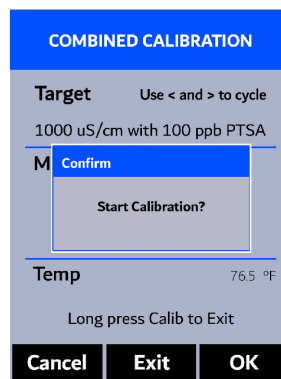

Figure 14.
6. The display updates as shown in Figure 14 and the user can choose one of three options: